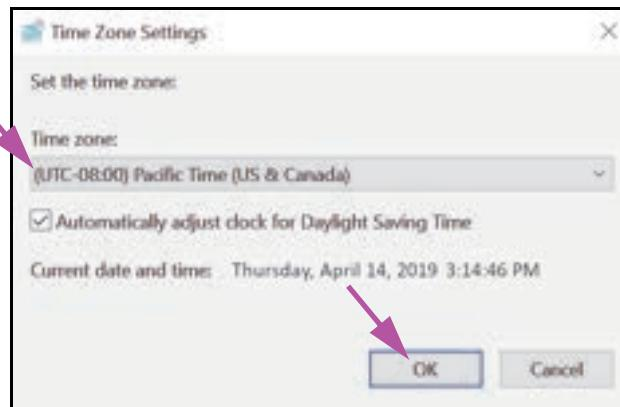

Figure 2-36. Time Zone Settings Dialog Box
5. Click the **Change Time Zone...** button. The Time Zone Settings dialog box appears. See Figure 2-36.